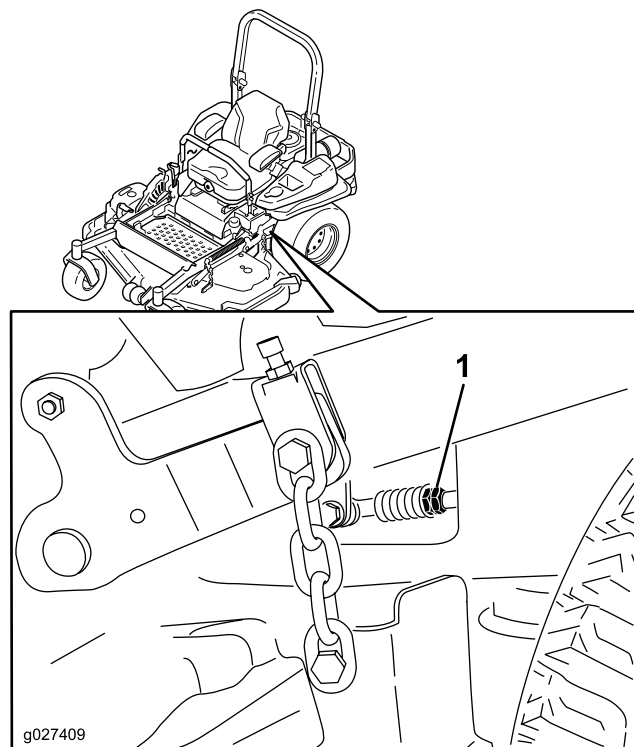

Figure 81
10. Adjust the pump-control-rod lengths by rotating the double nuts on the rod in the appropriate direction until the wheels slightly creep in reverse (Figure 81).